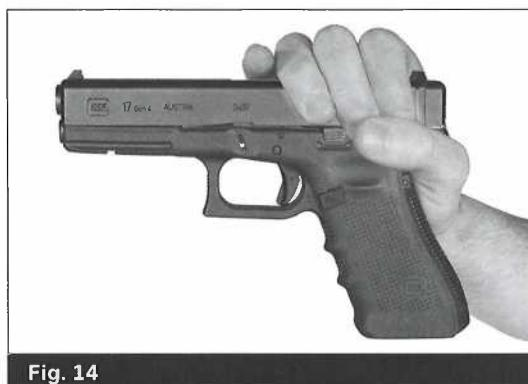

Fig. 14
- Grasp the pistol as shown. (Fig. 14)